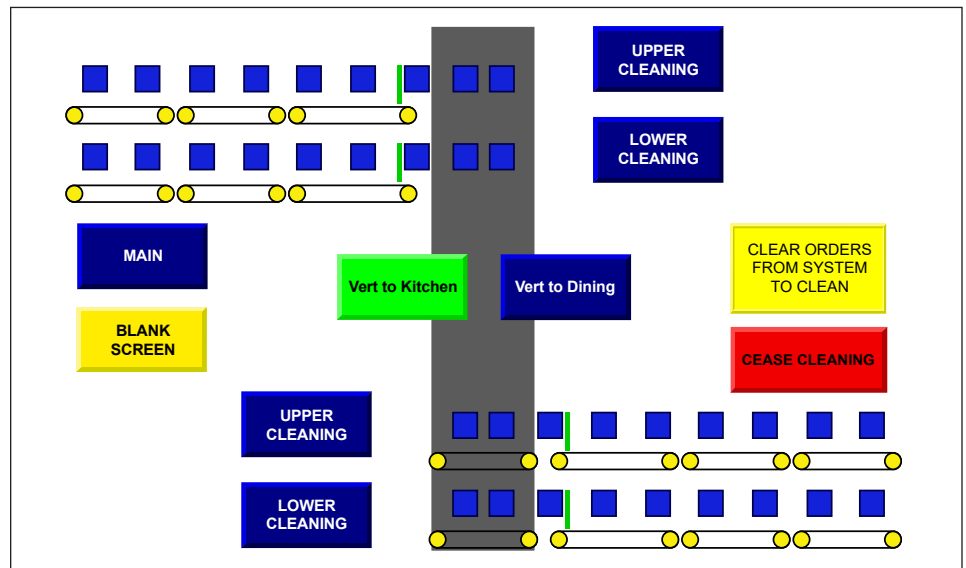

Figure 4. HMI Cleaning Screen
3. Select “Clear Orders From System To Clean” to clear the system and allow for cleaning (Figure 4).